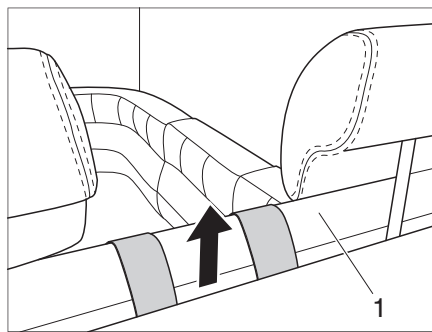
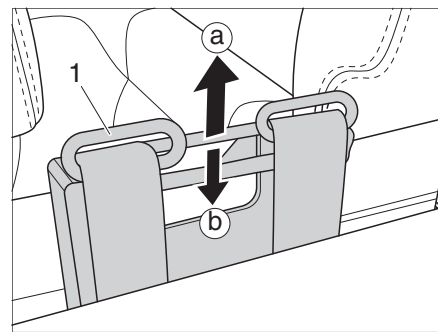

Fig. 17 Belt pull-out countersunk
Fig. 18 Belt extension pulled out
The Alpa 7820 is equipped with a belt extension that must be pulled out before the seat belt can be fastened (Fig. 17).
- Reach behind the seat (Fig. 17,1) and pull the belt extension (Fig. 18,1) up as far as it will go (a).
- Briefly pull the belt pull-out (Fig. 18,1) up (a) and then press it down (b) until it is sunk behind the seat.